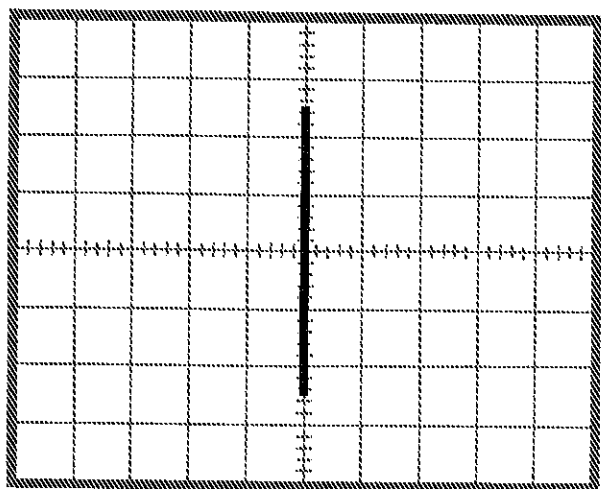

Figure 18
2. Refer to Figures 18 and 19, and perform the following lettered steps: (A-G). Adjust only the controls associated with the X channel.
- B. Connect a 1000 Hz square wave signal to the X input connector. Adjust the signal amplitude of this signal for a trace of 4-6 cm wide. See Figures 18 and 19.